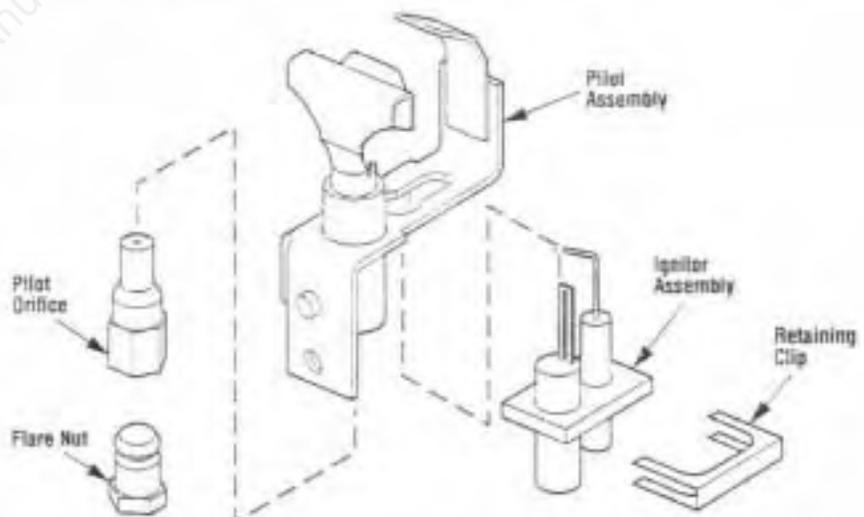

Figure 53
Step 5. Electronic Models - Remove the gas type selector plug (Figure 52) and turn it around to show the appropriate gas type and reinstall the selector plug. Gas type in use should be visible on the selector plug when it is installed. See Figure 53 and replace the pilot orifice as follows: Remove the ignitor assembly retainer clip, and carefully remove the ignitor assembly